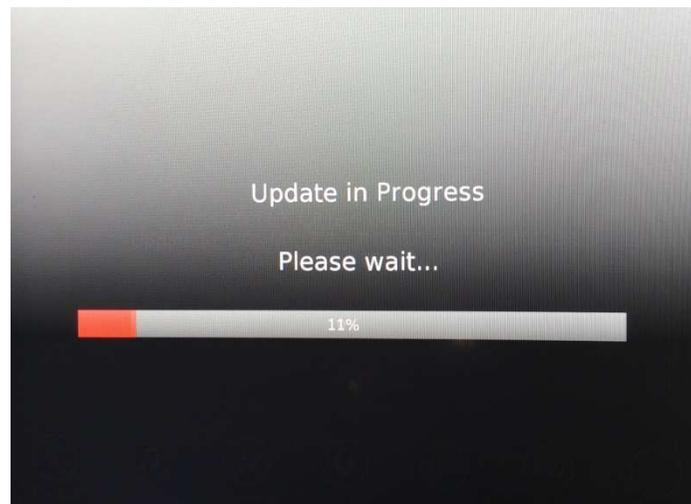

Fig. 8
11. Press the touchscreen “YES” to start the update. The update may take up to 40 minutes, no other actions are needed to initiate the update (Fig. 8) .